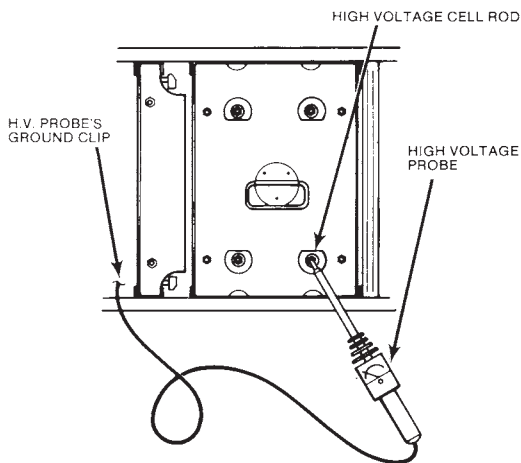

FIGURE 12
- Probe the collection cell at the high voltage cell rod as shown in Figure 12. If collection cell voltage falls below 4 KV, the SMOKEETER is not operating efficiently.